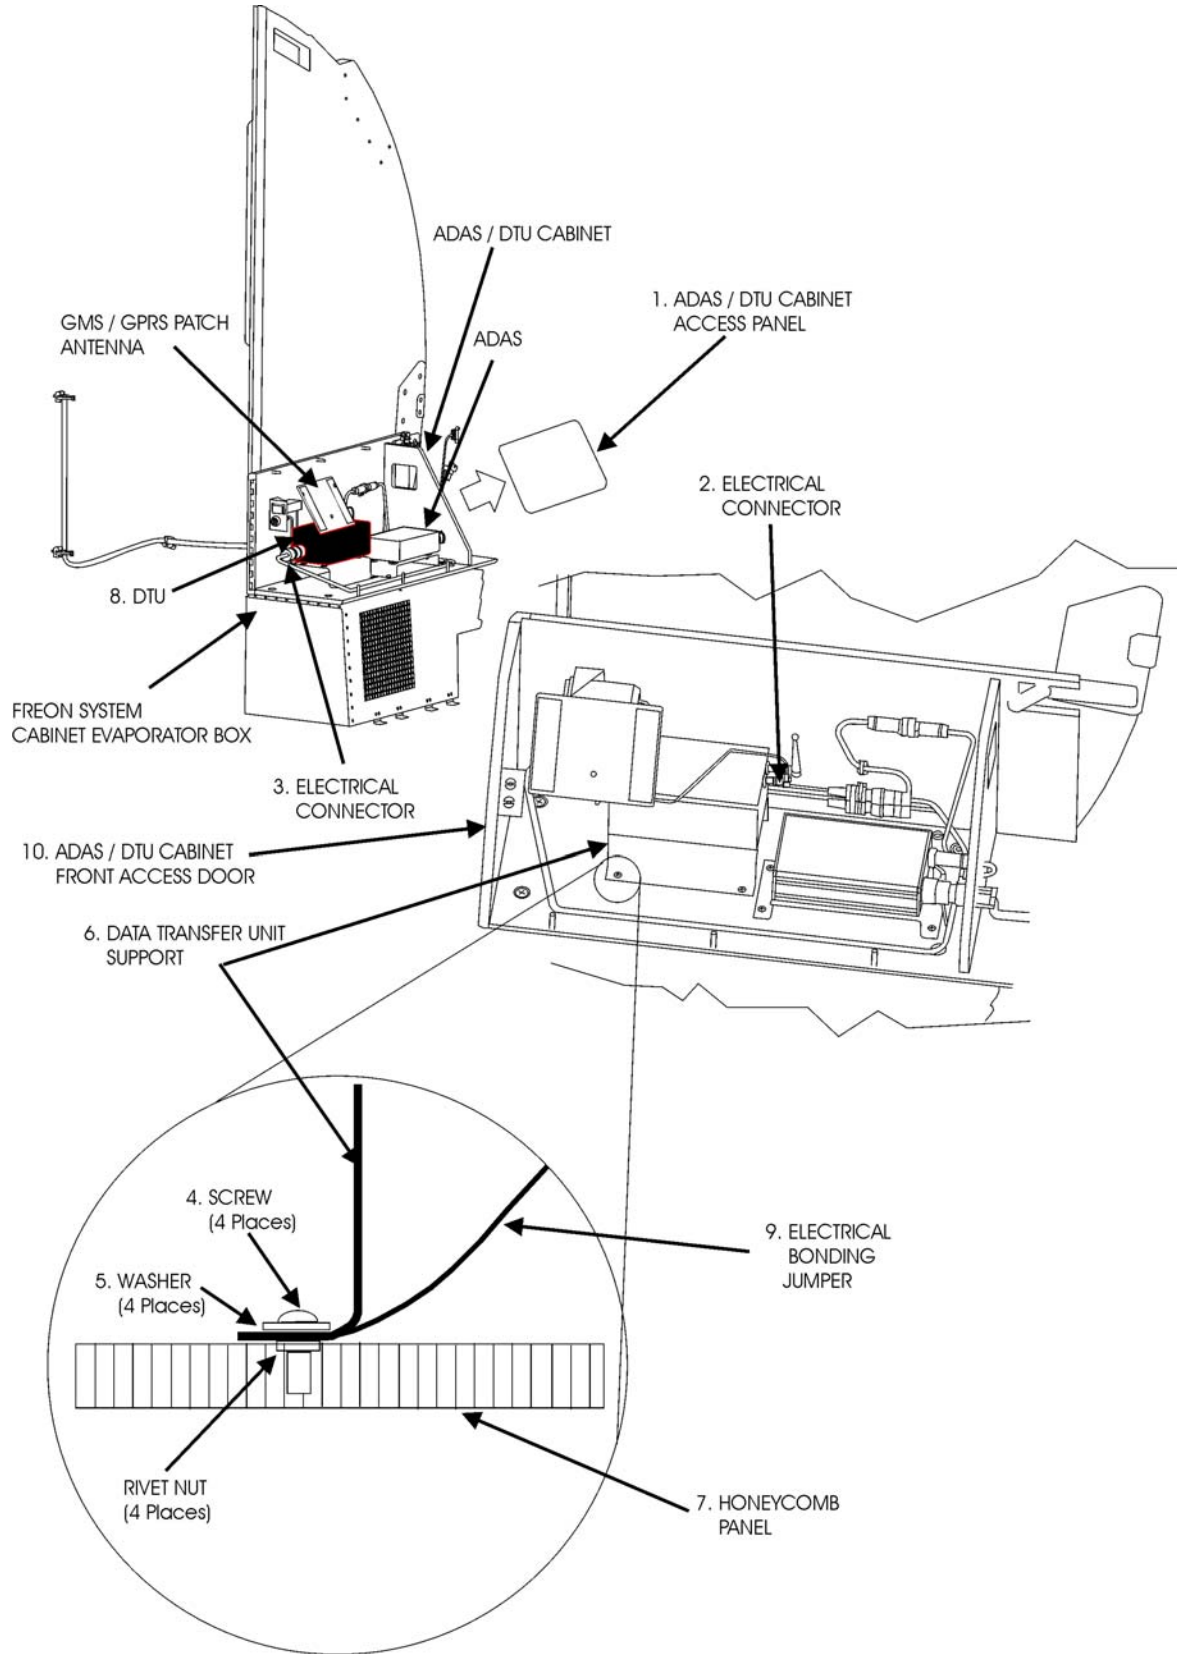

Fig. 201 - Data Transmission Unit (DTU) - Removal / Installation
10. GSM / GPRS Patch Antenna - Removal (Refer to Fig. 201, 202)
- (4) Open the Cabinet Front Access Door.
- (5) Disconnect the Electrical Connector from the Antenna.
- (6) Detach the antenna from the internal Cabinet Surface.
- (7) Remove the GSM / GPRS Patch Antenna.
- (8) Put caps on the Electrical Connectors.
11. GSM / GPRS Patch Antenna - Installation(Refer to Fig. 201, 202)